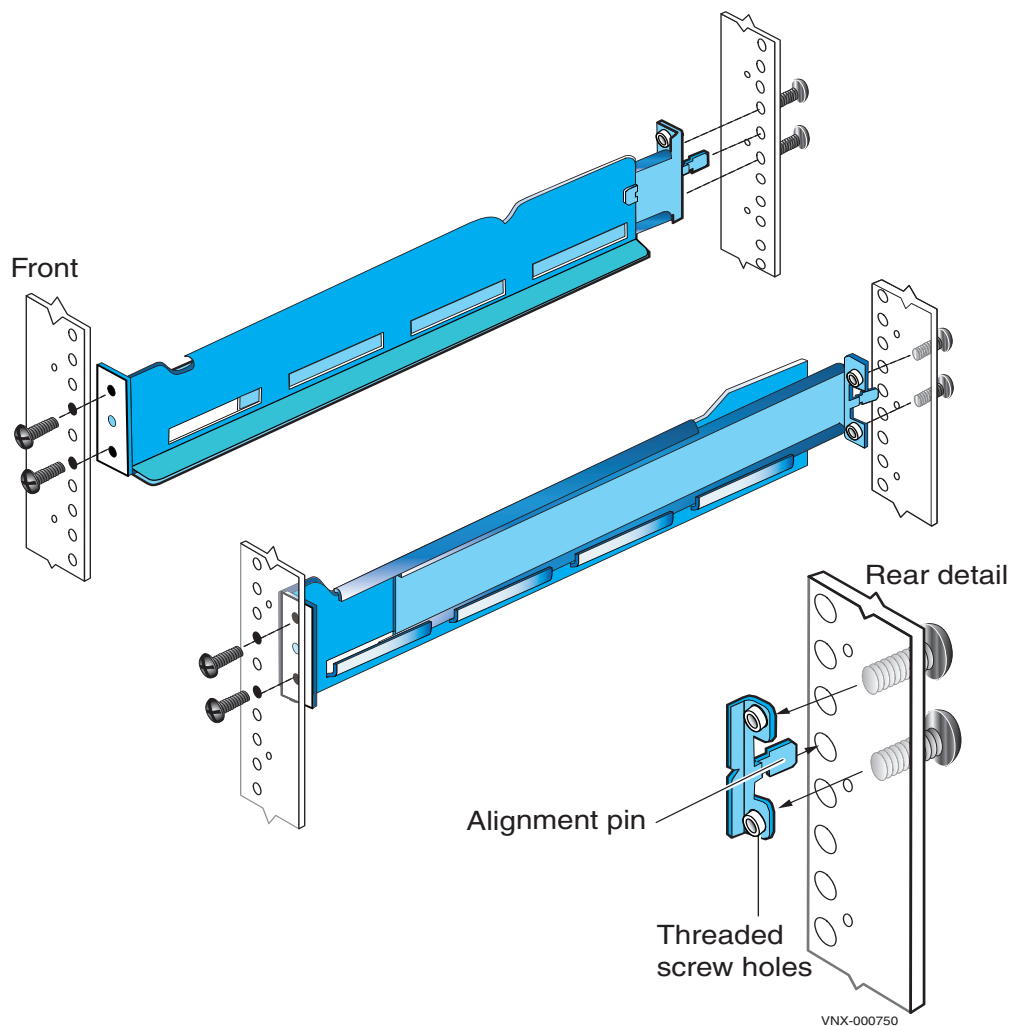

Figure 1 Installing the SPS rails
3. Insert two retention screws in the front and two retention screws in the back of each rail as shown in Figure 1.